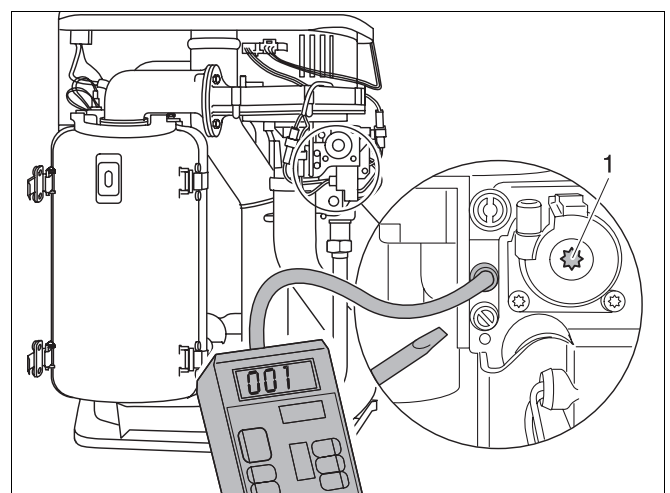

Fig. 23 Check the gas/air ratio
- Attach the pressure-gauge connection hose to the gas test nipple (fig. 23).
- Connect the positive port of the pressure gauge with a hose to the burner pressure measuring nipple (fig. 23).
- If the gas/air ratio does not conform to specifications, readjust at the setscrew (fig. 23, item 1).